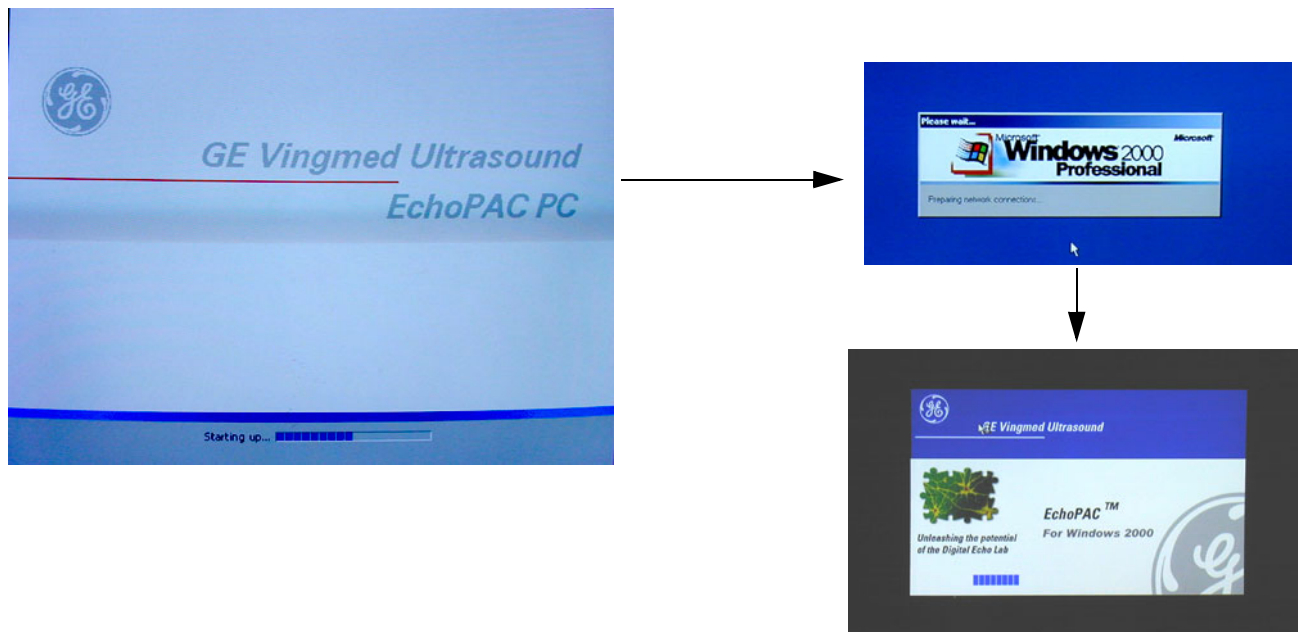

Figure 8-184 Normal Start Up Process
- 13.) Verify a similar boot sequence as shown in Figure 8-184 "Normal Start Up Process" on page 8-156.